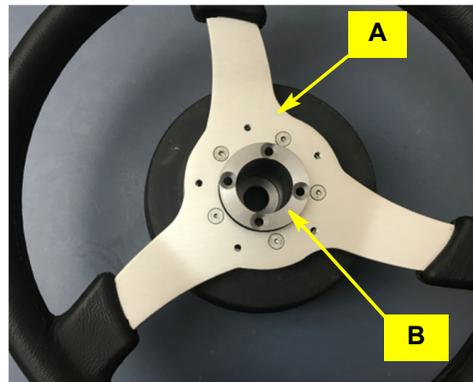

Figure 1a: Installing the shaft adapter
- a. Place the ESi steering wheel assembly **A** on a clean surface with the wheel facing up. Insert shaft adapter **B** into **A** (Figure 1a).